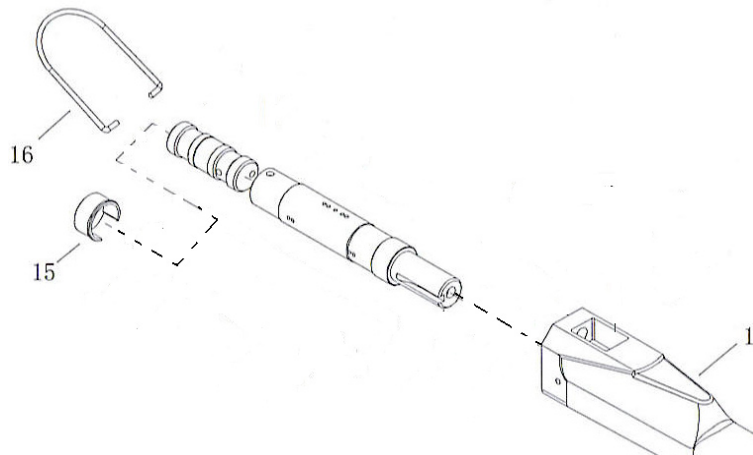

Figure 2
2. Attach air supply to the Air Inlet Base Cap (15) of the Air File Housing (1), using either a quick disconnect (recommended, but not included), or by simply screwing the air supply to the Air Inlet Base Cap (15) of the Air File Housing (1) just in front of the Loop Hanger (16). See **Figure 2**.